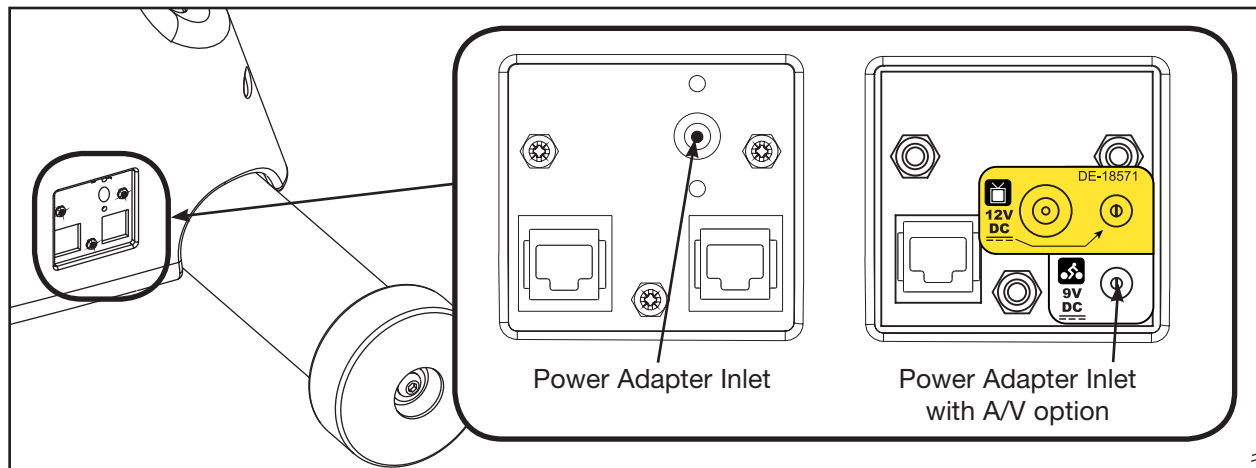

Figure 9
- A. Plug the optional power adapter into the inlet near the front of the unit. **NOTE: Do not plug the power cord into an outlet at this time.** See Figure 9.